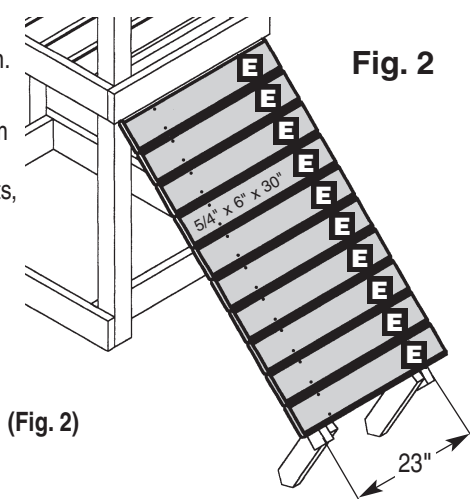

Fig. 2
3. Install ten 5/4" x 6" x 30" wall decking. Hold wall supports at dimension shown. (Fig. 2)
4. Place first board tight against the bottom of the deck side board with equal overhang on both sides of wall supports, approximately 3 1/2". Secure with four #8 x 2 1/2" deck screws. (Fig. 2)
5. Install next board tight against first, keeping 23" measurement. Secure with four #8 x 2 1/2" deck screws. (Fig. 2)
6. Repeat for remaining boards. (Fig. 2)